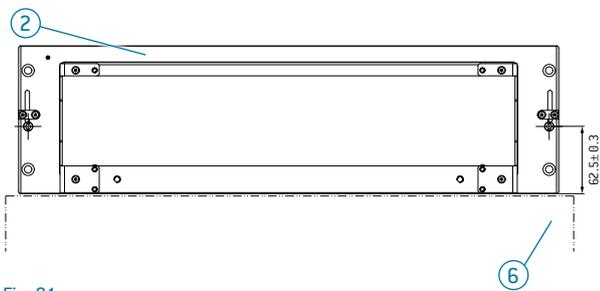
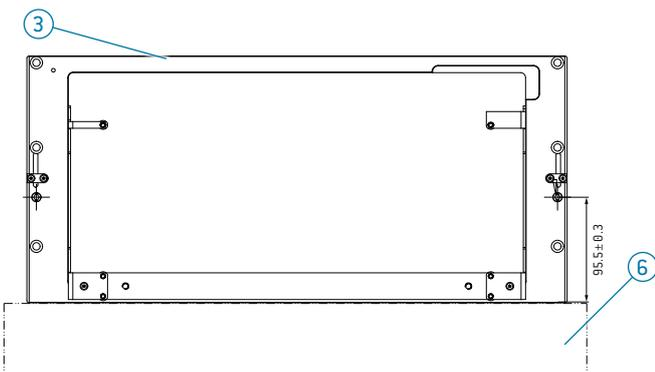

Fig. 91
Fig. 92
- ▶ For the installation of a customer support option ⑥ with a 12-Flex TWO mounting plate without platform flange ②, the specified dimension between the centring pin and the support surface ⑥ of the adapter must be observed.
- ▶ See Fig. 91
- ▶ For the installation of a customer-specific support option ⑥ with a 12-Flex FOUR mounting plate without platform flange ③, the specified dimension between the centring pin and the support surface ⑥ of the adapter must be observed.
- ▶ See Fig. 92